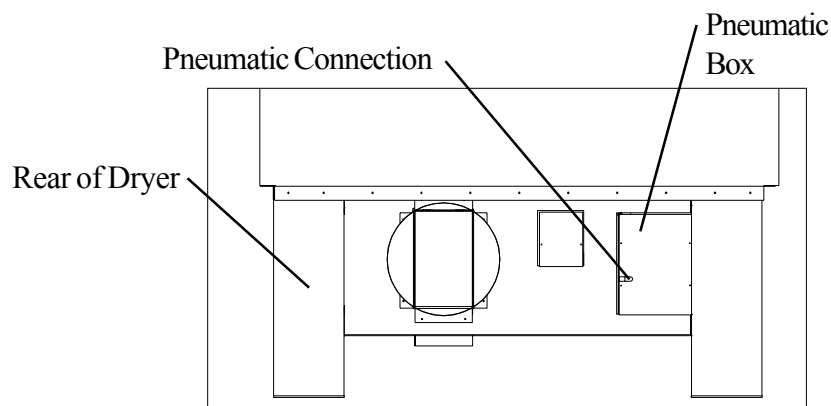

Figure-6A
STEP 18: Remove air regulator from basket. Put air regulator on pneumatic connection and then hook up air (See Figure-6A).